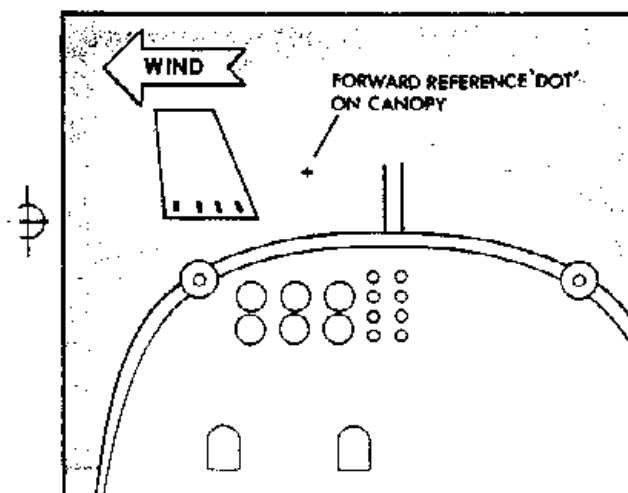

Figure 6.2. Crab Into the Wind.
6.3.5.3. On final approach, as in the final turn, the aircraft is affected by wind, but the flight path must coincide with the desired ground track. Because there is almost always a wind condition that is less than optimum (blowing straight down the runway), you may need special techniques to maintain runway alignment. There are two ways to do this, the wing-low method and the crab method. In the T-37, use the crab method as you roll out on final. Then transition to the wing-low method. The normal inclination is to automatically roll out of the final turn with a crab into the wind (figure 6.2).